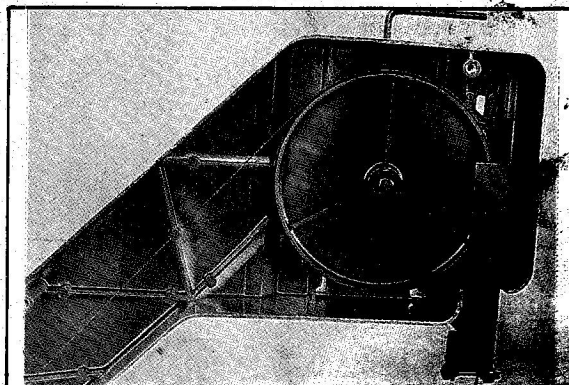

FIGURE 18
5. Using the Allen wrench supplied turn the Hex. Socket Screw clockwise to release the blade tension. (Figure 18)